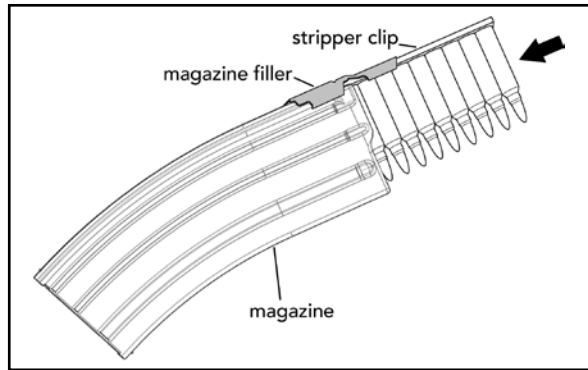

Fig. 15 – Loading Magazine
Magazines may be loaded by hand, one round at a time, or quickly loaded using a magazine filler and stripper clips. The use of a magazine filler and stripper clips is depicted below (Fig. 15).
1. Attach the magazine filler to the top rear of the magazine and insert a 10-round stripper clip into the magazine filler (Fig. 15).